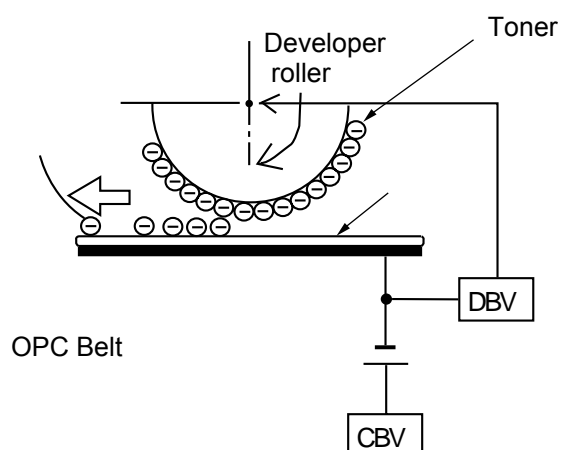

Fig.4-15
- ii) Dev.roller has been biased to the potential $-DBV(V)$. Fig.4-15 describes the relationship established between the potential of toner, the potential $-V_0(V)$ at the non-exposed area of OPC belt and the potential $-VR(V)$ at the exposed area of OPC belt.